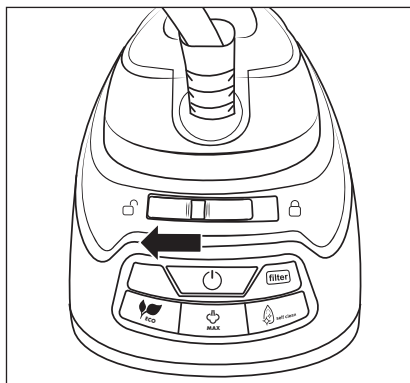

Fig. 4
① Note
- 2) Unlock the steam iron **1** by sliding the locking switch **15** to the left towards  (unlocked) (see Fig. 4).